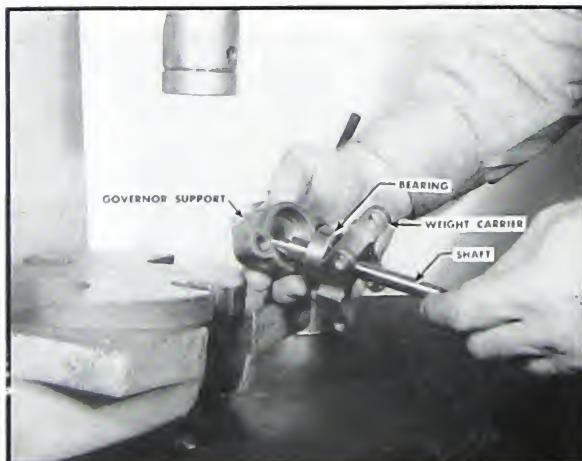

Fig. 5-216. Assembling weight carrier and shaft to support
5. Slip the governor support over the governor bearing. This is a slip fit and pressing is not required. Fig. 5-216.